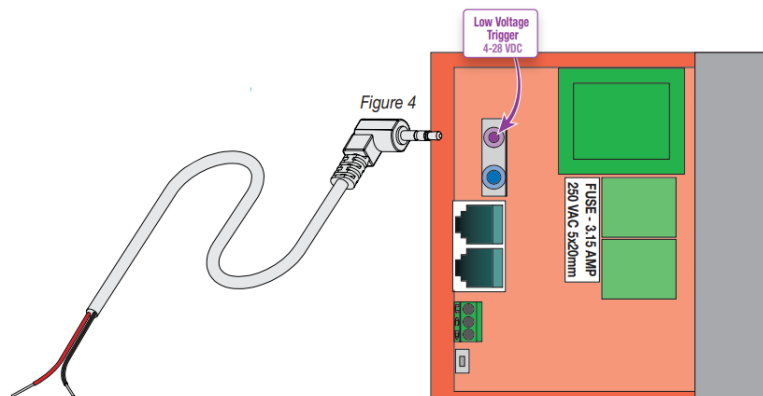

Figure 4
2. Plug the mini-jack plug of the low-voltage trigger cable to the LVC-IV (Figure 4).